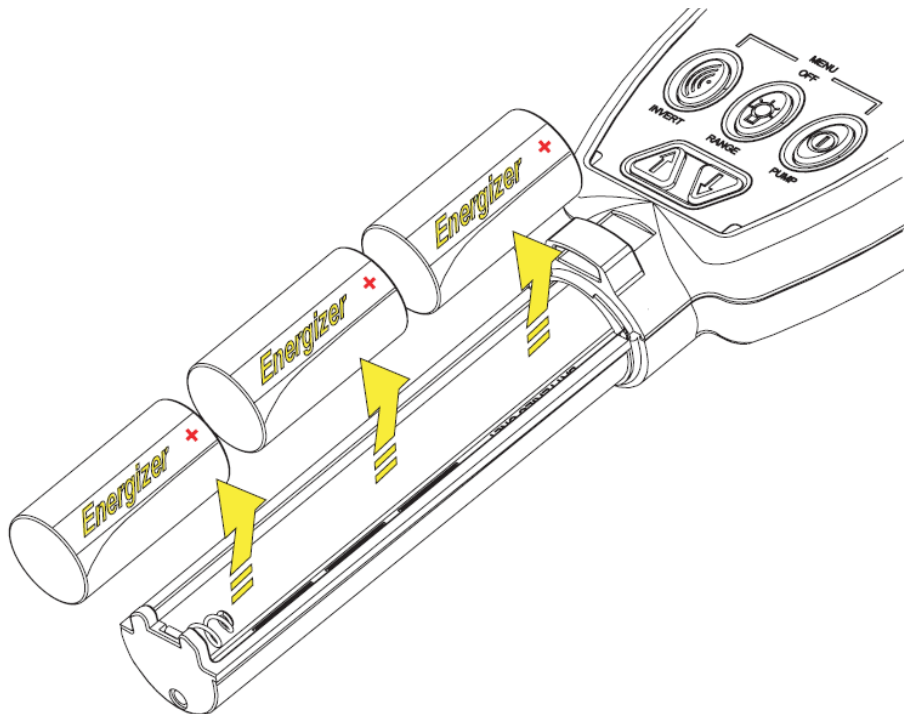

Figure 32: Battery Removal
4. Remove the three batteries, as shown in Figure 32: Battery Removal.
5. Replace Batteries - note polarity as shown in Figure 32: Battery Removal.